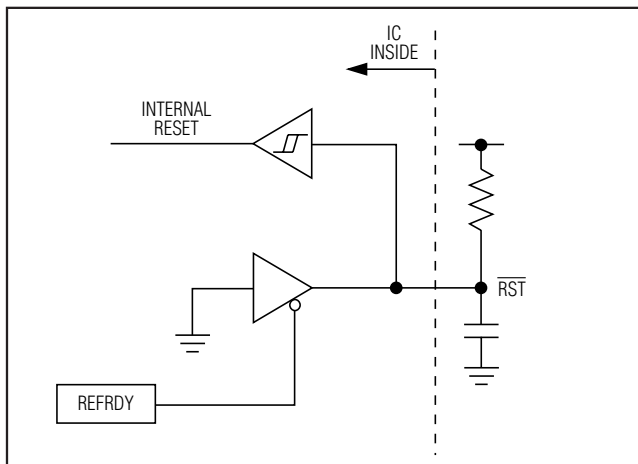

Figure 8. Reset Functional Diagram
- Once  $V_{IN}$  exceeds  $V_{UVLO}$ ,  $V_{REF}$  will start up. When  $V_{REF}$  is higher than 1.0V,  $\overline{\text{RST}}$  will be released and its output becomes high impedance. External RC (Figure 8) will be charged up by their pullup voltage.